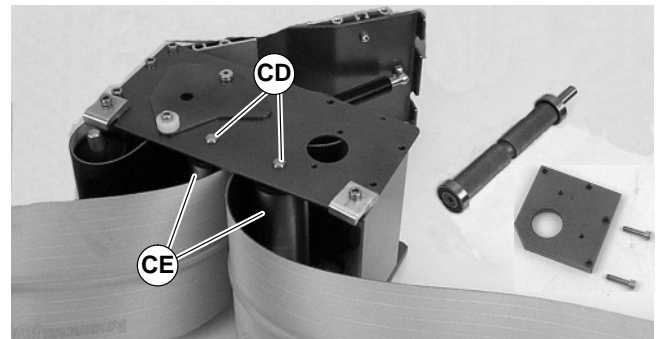

Figure 47
- For 5” (127 mm) or wider conveyor, depress both sides of each spring-loaded shaft (CD of Figure 47). Remove pulleys (CE).